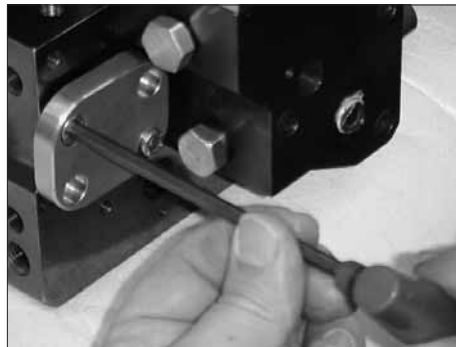

Figure 7-93 Removing the pump shaft end cap
3. See Figure 7-93. Using an M5 hex wrench, remove the pump shaft end cap.